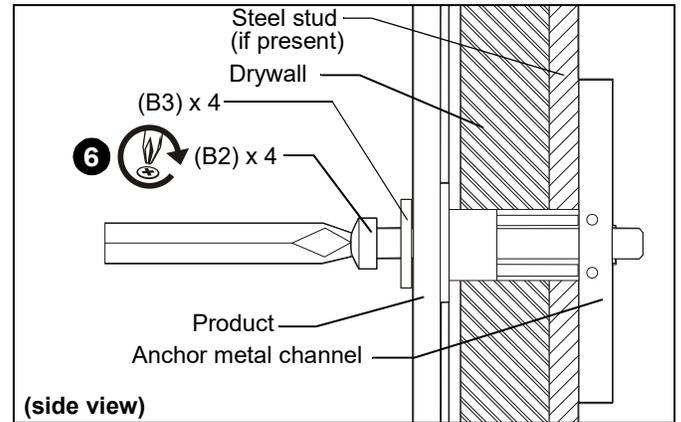

Figure 65
6. Insert 1/4-20 x 1-3/4" Phillips pan head screw (B2) through 1/4" washer (B3), corresponding mounting hole in product and into anchor (B1), and tighten until flush against product. DO NOT over tighten! (See Figure 65)